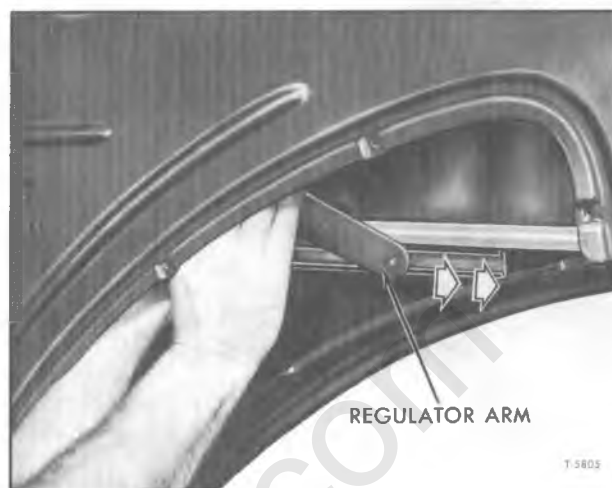

Figure 18—Removing Regulator Arm from Track
4. Guide regulator arm to remove roller from window channel track (fig. 18). Carefully lower regulator assembly from door (fig. 19).
8. Lower window and remove window regulator assembly as described previously (figs. 18 and 19).